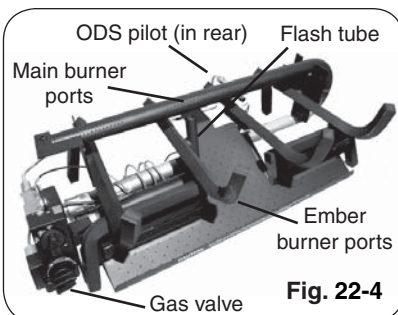

Fig. 22-4
2. Dust the grate, the assembly, and the burners. Using a compressed air duster (commonly available at computer, electronic, or office supply stores); blow through the flash tube, its corresponding carry over ports, and all of the burner ports. See Fig. 22-4 and 22-5 on the previous page for locations.